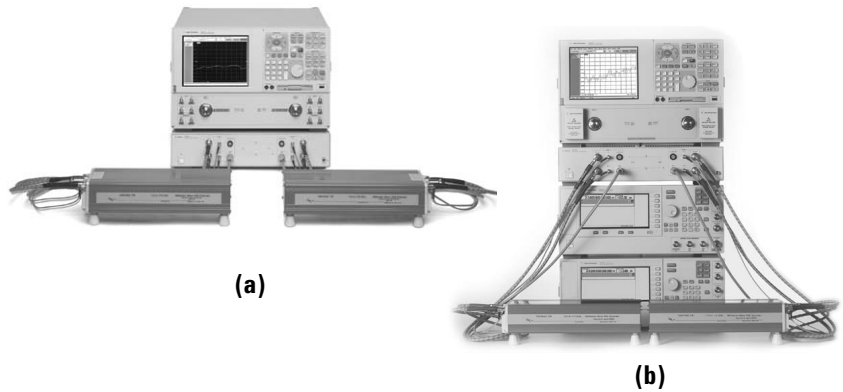

Figure 1. Two banded millimeter-wave systems: (a) one without external synthesizers, and (b) one with external synthesizers.
Figure 1 shows two types of banded millimeter-wave systems. These system configurations include the VNA2 waveguide (WG) test head modules from Oleson Microwave Laboratory (OML).